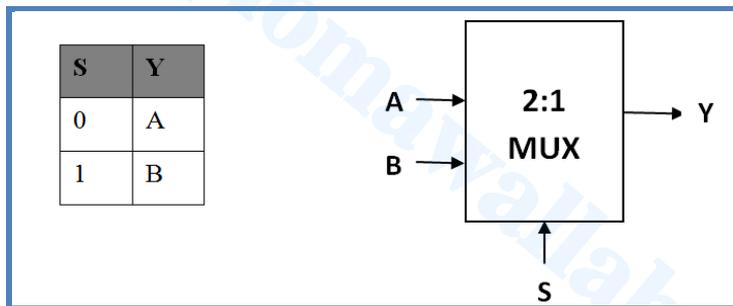
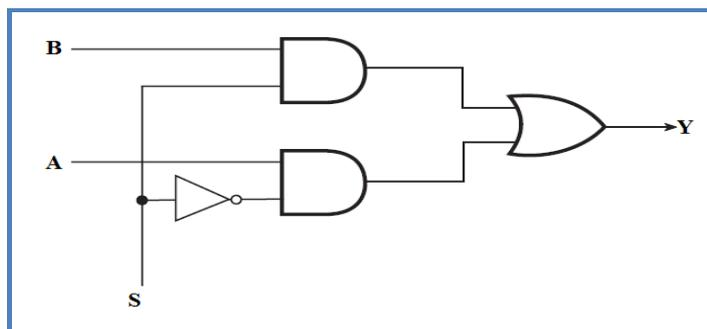

Fig. 3.18: Truth table and Block diagram of 2 to 1 MUX
Fig. 3.19: Logic gate implementation of 2 to 1 MUX
The term “Multiplex” means “*many to one*”. It is a type of “combinational circuit” which has “multiple input lines” and “one output line”. It is also known as “data selector” or “MUX” and represented as  $2^n:1$  multiplexer, where, “ $n$ ” is “number of select lines”, “ $2^n$ ” is number of input lines” and “1 output line”. According to the values of select lines, the output gets value of one of the inputs. The types of multiplexers are “2:1 MUX”, “4:1 MUX”, “8:1 MUX” and so on. The general “block diagram” of a multiplexer is shown in fig. 3.18. It has “ $n$  select lines”, “ $m$  input lines” and “one output line” (here  $m=2^n$ ).
It has one select line (S), two input lines and one output line. The truth table and block diagram are shown in fig. 3.18. “Boolean expression” for “output” of “2: MUX is”-  $Y = \bar{S}.A + S.B$ . The “logic diagram” is represented in fig. 3.19.